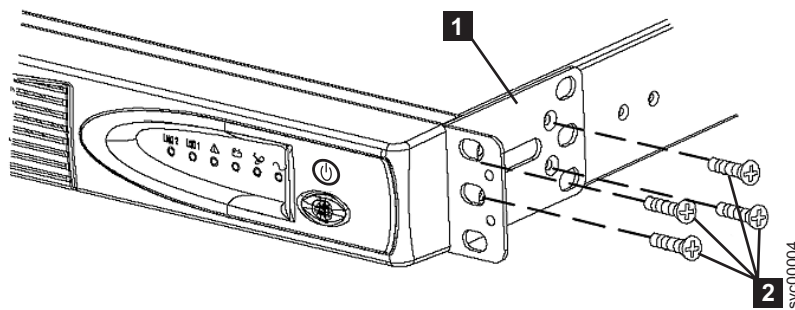

Figure 18. Installing the support rails for a 2145 UPS-1U into the rack
3. Attach the long side of a mounting bracket **1** to each side of the 2145 UPS-1U using four M3 × 6 screws **2** for each bracket, as shown in Figure 18.